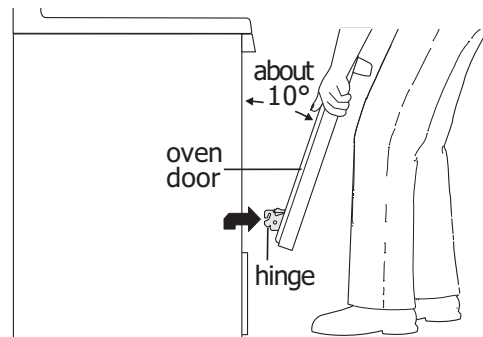

Figure 33: Holding door for removal
2. Pull the door hinge locks on both left and right door hinges down from the oven frame completely towards the oven door (See Figure 33). A tool such as a small flat-blade screwdriver may be required.
4. Push the door hinge locks up towards and into the oven frame on both left and right oven door hinges to the locked position (See Figure 33).